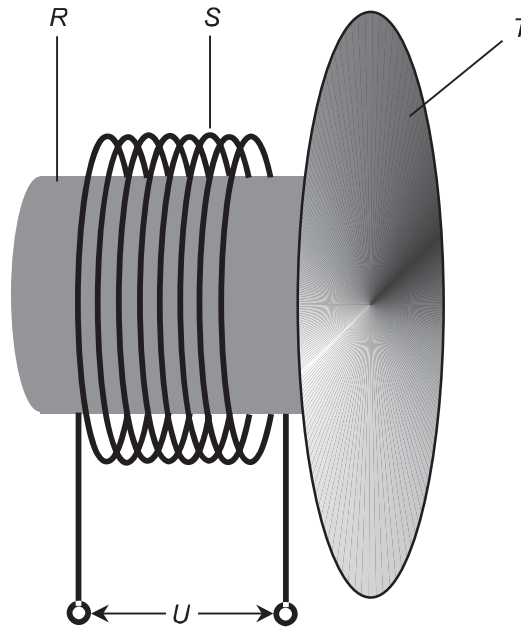

Fig. Exam-6. Illustration for Final Exam Questions 61 through 64.
61. Figure Exam-6 is a simplified functional drawing of a dynamic transducer. The component labeled R is
62. In Fig. Exam-6, assuming the transducer is properly connected and operated, the component labeled S carries
63. What function does the component labeled *T* in Fig. Exam-6 perform?
64. In Fig. Exam-6, assuming the transducer is properly connected and operated, what appears between the terminals marked *U*?